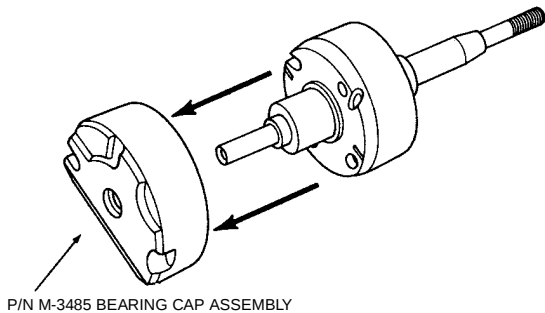

Figure 6.9A
- B. Press rotor shaft and remove bearing cap assembly. (See Figure 6.9A.)